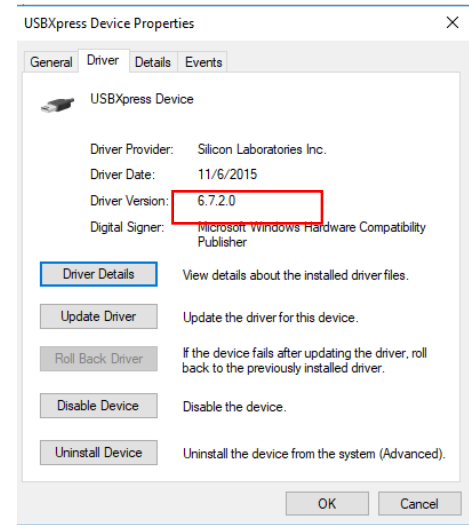

Figure 13: Correct Driver Version
*Right-click and view properties. Check to make sure the driver version matches the newest version (see Figure 13).*